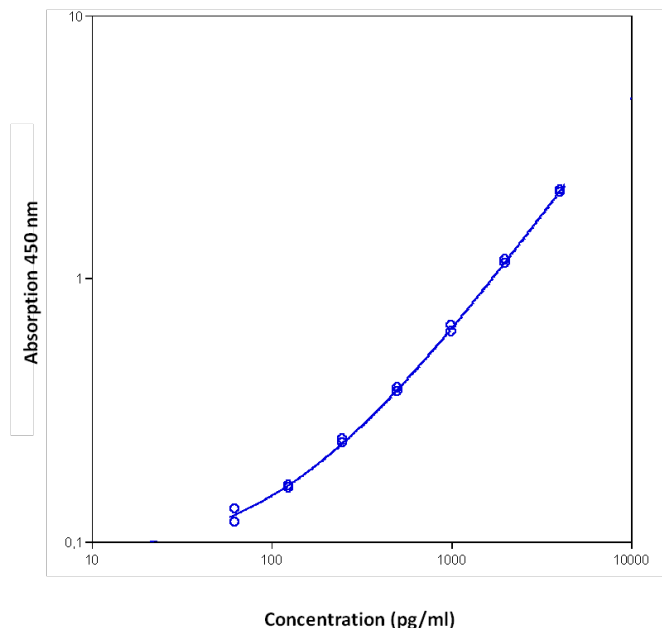

Fig. 7 Representative standard curve for human IL-27 ELISA. Human IL-27 was diluted in serial 2-fold steps in Calibrator Diluent.
- A representative standard curve is shown in Figure 7.